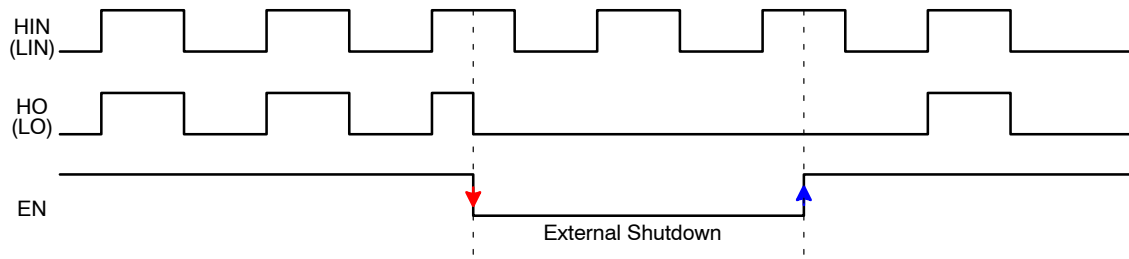

Figure 27. Timing Chart of Enable Function
Enable (EN) is internally pulled low to SGND so the driver is always defaulted to a disabled output status. Similar to HIN and LIN, EN is a Schmitt trigger TTL compatible input. Pulling the EN pin above 2.5 V maximum, enables the outputs, placing the NCP51810 into an active ready state. Due to the nature of high-speed switching associated with GaN power stages, and for improved noise immunity, it is recommended to connect the EN pin to VDD through a 1 k Ω (or less) pull-up resistor. For applications where the EN pin is actively controlled, the EN pin can be driven direct but should be bypassed with a 10 nF decoupling capacitor. As shown in Figure 27, if EN is pulled low during normal operation, the driver outputs are immediately disabled, even terminating an active HIN or LIN pulse mid-cycle during the on-time. When EN is toggled high, during normal operation, a cycle-by-cycle, edge-triggered logic function is employed to prevent shortened, erroneous control pulses from being processed by the output. This behavior is highlighted in Figure 27, where EN transitions high at the same time the HIN (or LIN) input pulse is high. In this way, the NCP51810 is intelligent by waiting until the next rising edge to process the full input signal to the output driver stage.